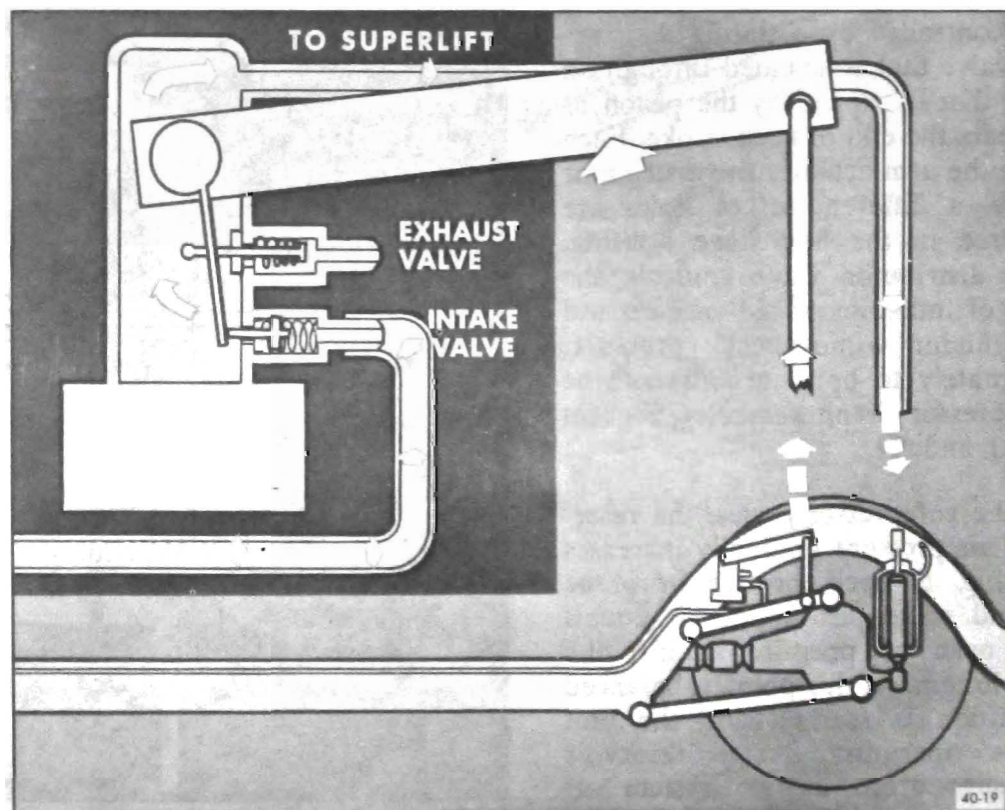

Figure 40-26 - Load Added to Car
d. The height control valve, which is mounted on the frame, senses rear car height through a link attached to the rear upper control arm. When load is added to the car, the overtravel lever is forced up causing an internal lever to open the intake valve. See Figure 40-26. When this valve is open, high pressure air is admitted to the Superlift shocks. As the car raises to level (depending upon position of load), the intake valve shuts off.